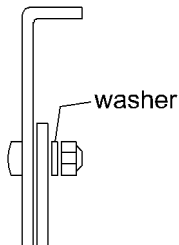

fig 9
- c) Fold out the arm with the bolt, washer and nut attached. Remove the nut and feed the bolt through the 8mm hole in the end of the arm with the wire attached making sure the washer is next to the nylok nut (figure 9). There is now some tension on the spring.